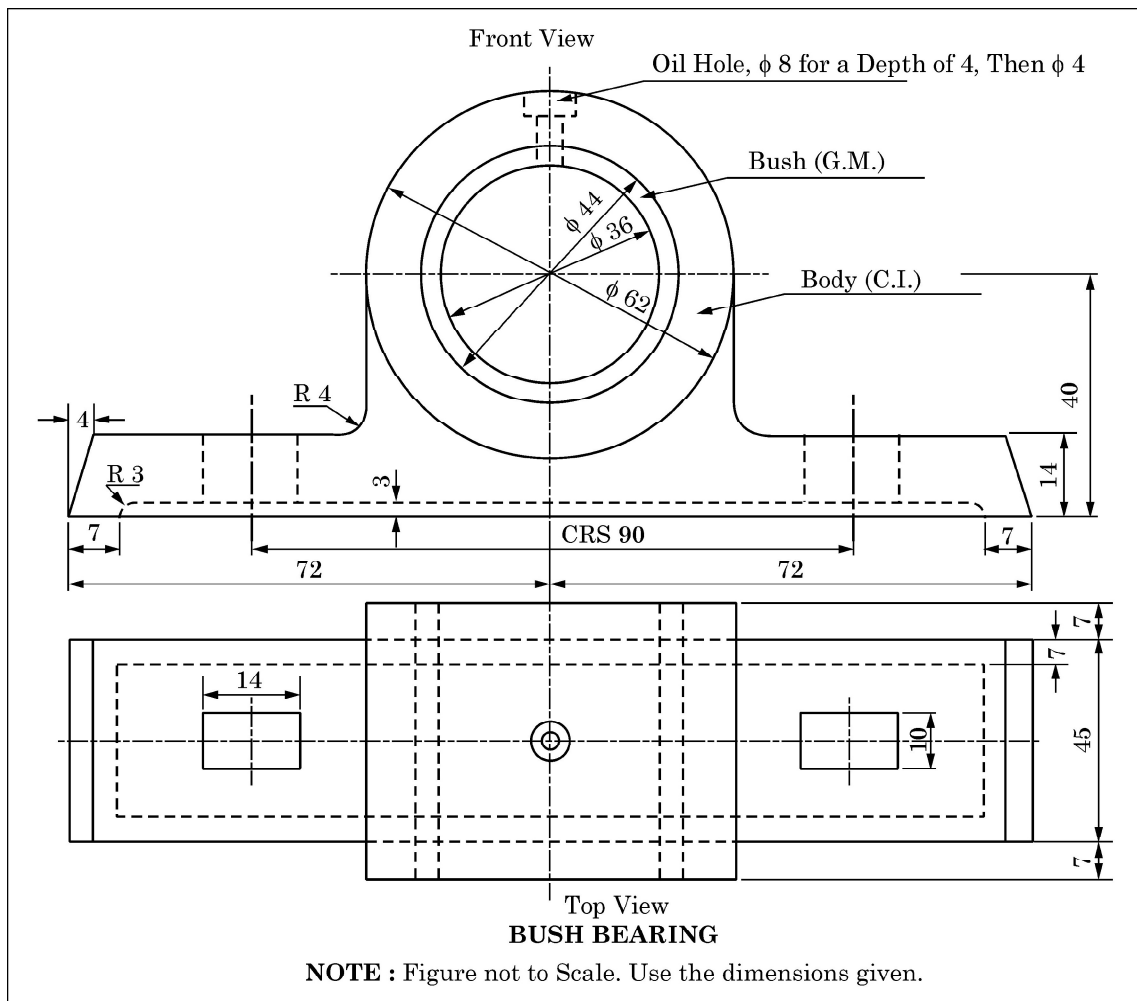

Fig. 2
(B) Fig. 2 shows the assembly of a **Bush Bearing**. Disassemble the parts correctly and then draw to scale 1 : 1 its following views of the following components. Keep the same position of both body and bush with respect to H.P. and V.P.